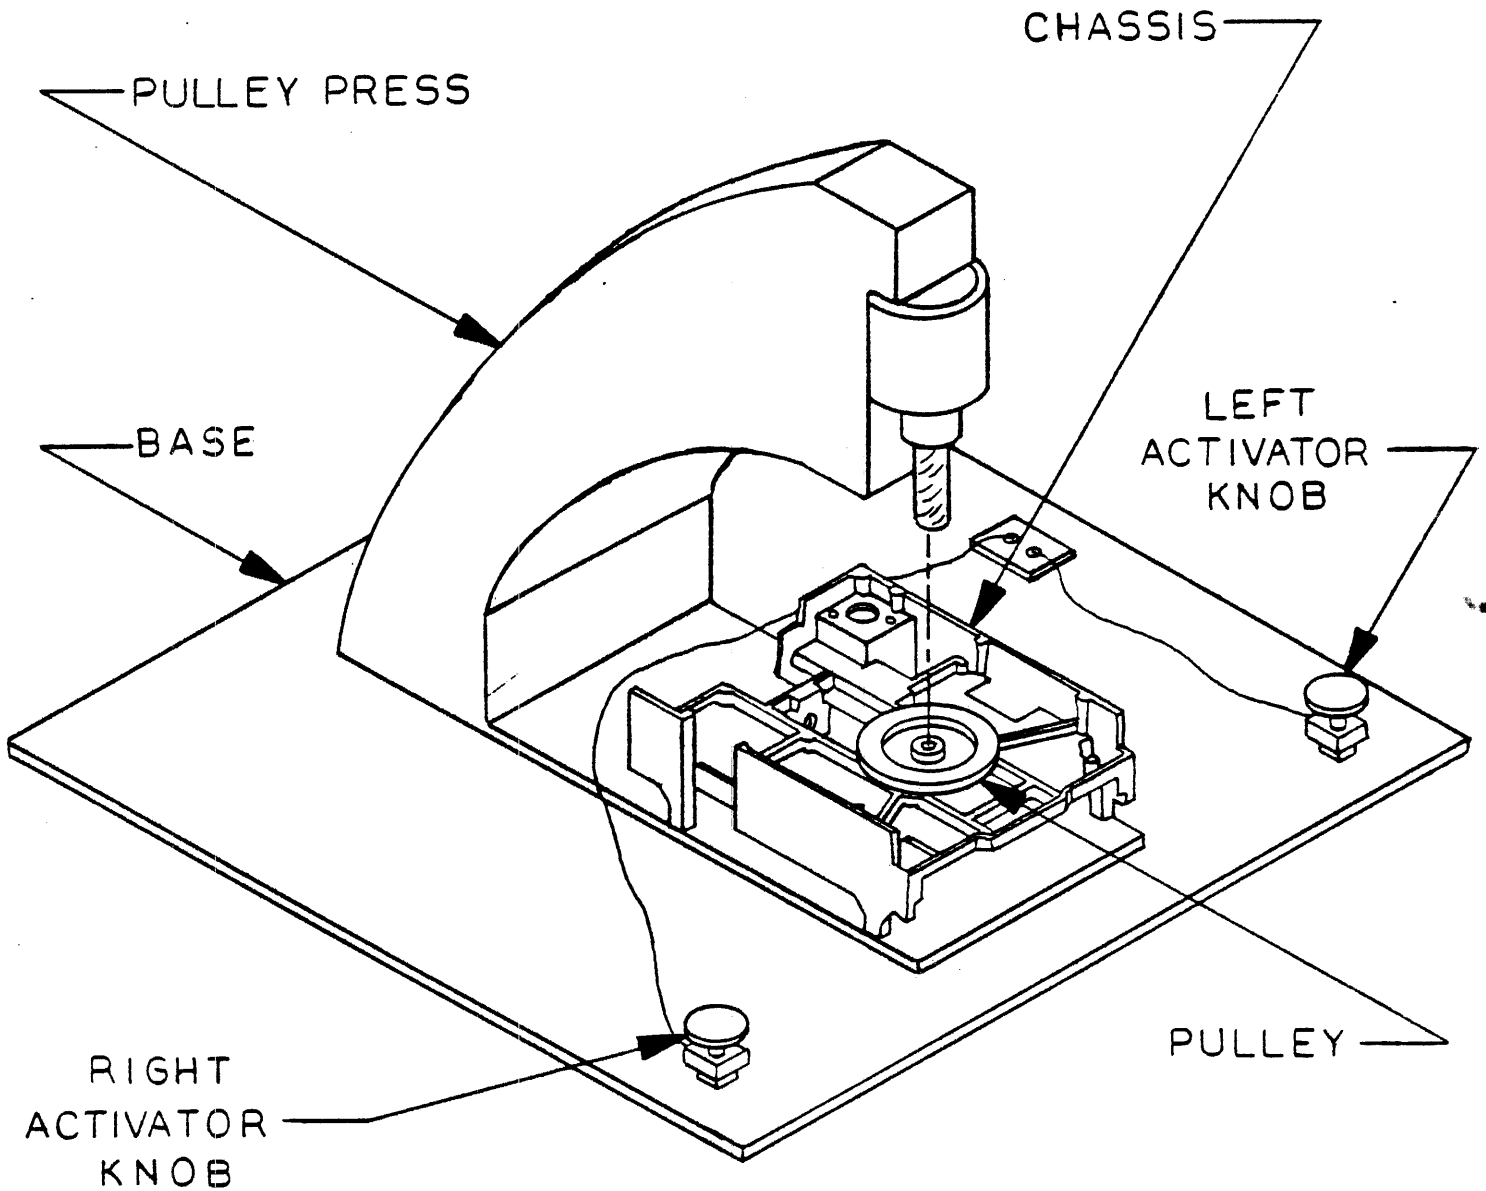

FIGURE 5. THE INSTALLATION OF THE PULLEY USING THE PRESS
- 7.3.2 Place the chassis bottom-side up on the pulley press. (See Fig. 5.)
- 7.3.4 Activate the press by exerting pressure simultaneously on both activator knobs on the press base. (See Fig. 5.) Maintain the pressure until the press goes down fully, and wait 2 more seconds before releasing the activator knobs. When the press has returned to its original position, remove the chassis.